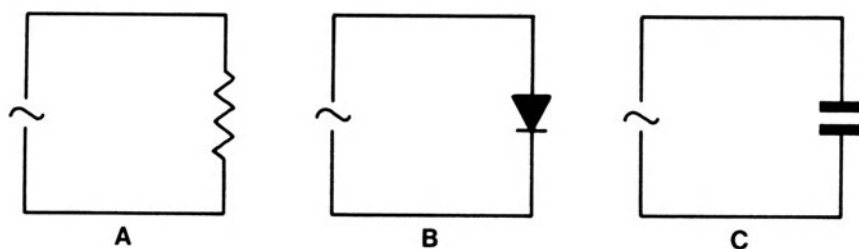

FIG. 3.47
36. Diagrams A, B and C in Fig. 3.47 show alternating voltages applied to a resistor, a diode and a capacitor.